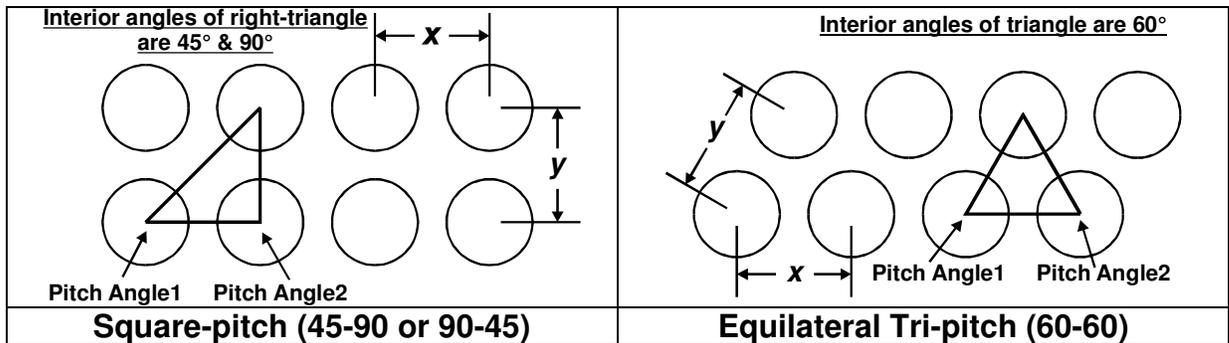
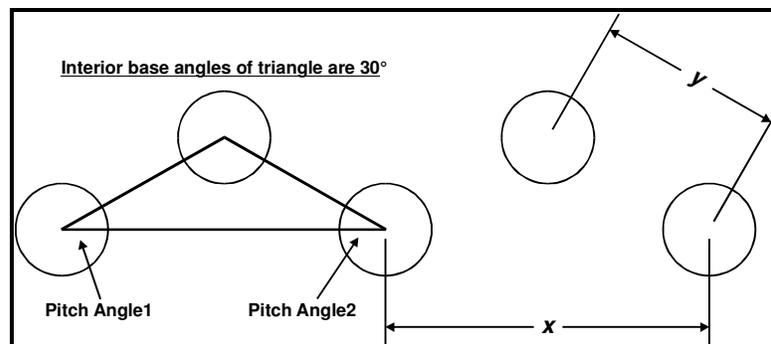

Figure 39. Symmetrical Tube Pitch Designs
Figure 40. Asymmetrical Tri-Pitch Design (30-30)
- **Tube Pitch:** Enter the horizontal center-to-center tube pitch. For square-pitch and equilateral tri-pitch, the tube pitch is the same horizontally or vertically as shown in Figure 39.
The tube pitch provided on most specification drawings is not the horizontal tube pitch ( $x$ ), but rather the tube pitch ( $y$ ) along either side of a triangle created by selecting a tube in any row and drawing vectors down to the 2 adjacent tubes directly below it. In the first graphic of Figure 39, this action creates a right-triangle with either leg being equal ( $x = y$ ). In the second graphic, an equilateral triangle is created with all sides being equal ( $x = y$ ). All the interior angles of the equilateral triangle are  $60^\circ$  while the interior angles of the right-triangle are  $45^\circ$ ,  $45^\circ$ , and  $90^\circ$ . In both of these cases, the horizontal tube pitch ( $x$ ) is the same as the vertical tube pitch ( $y$ ) as shown.
However, a common tri-pitch design used in some heat exchangers is referred to as '30-30' tri-pitch. In this case, the resulting triangle is not equilateral and the interior angles are  $30^\circ$ ,  $30^\circ$ , and  $120^\circ$  as shown in Figure 40. The  $y$  dimension shown along one of the legs of the triangle is typically the tube pitch value given on manufacturer's specification drawings. **MakeComp** needs the horizontal tube pitch ( $x$ ) to accurately calculate the position of the tubes on the *building grid*.
To calculate the horizontal tube pitch for the 30-30 tri-pitch layout shown in Figure 40 when only the y dimension is provided, use the following formula:
- **Pitch Angle1:** Enter the left interior base angle of the triangle created as shown in Figure 39 or Figure 40. For square-pitch and equilateral tri-pitch, **Pitch Angle1** is 45° or 90° for square-pitch dependant on how the triangle is drawn, and 60° for equilateral tri-pitch. For asymmetrical tri-pitch (Figure 40), enter the actual base angles. In the example shown in Figure 40, a value of 30° would be entered in this field. By entering accurate values in this field, the **Pitch Angle2** field, and the **Tube Pitch** field, any conceivable tubesheet map can be created since these three (3) values are used to accurately calculate the position of each tube and their relationship to other tubes.
- **Pitch Angle2:** Enter the right interior base angle of the triangle created as shown in Figure 39 or Figure 40. For square-pitch and equilateral tri-pitch, **Pitch Angle2** is 45° or 90° for square-pitch dependant on how the triangle is drawn, and 60° for equilateral tri-pitch. For asymmetrical tri-pitch (Figure 40), enter the actual base angles. In the example shown in Figure 40, a value of 30° would be entered in this field. See **Pitch Angle1** above for addition details.
- ❑ **Tube ID:** Enter the inside diameter (ID) of the tubes in this group in decimal format.
- ❑ **Tube OD:** Enter the outside diameter (OD) of the tubes in this group in decimal format. This value controls the size of the circles displayed as tubes on the tubesheet map; therefore, be sure it's entered accurately.